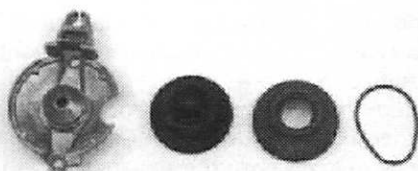

Figure 71
4. Turn and pull the exhaust valve piston, bellows and hose spring off of the valve rod housing (Figure 71).
4. Clean the valve rod housing (1, Figure 71) bore of all carbon deposits and residue. Then check the bore for excessive wear or damage.
5. Inspect the valve rod housing (1, Figure 71) for damage.
6. Check the condition of the exhaust valve piston (2, Figure 71). Look for damage caused by overheating or deformation (due to excessive tightening).
7. Inspect the bellows (3, Figure 71) for cracks and other damage.